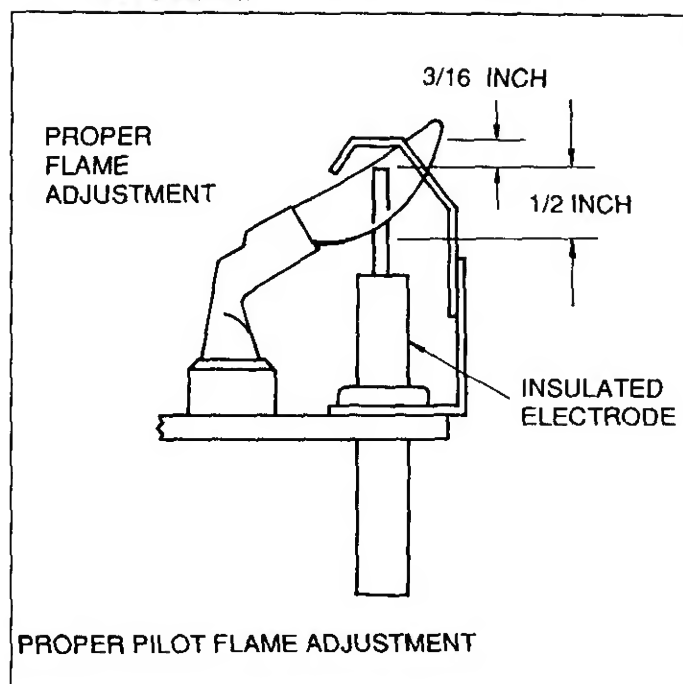

FIGURE 32
2. If necessary, adjust spark gap to 3/16" as shown in Figure 32. Pilot flame should cover 1/2" of tip of flame sensor.
5. Pilot flame should cover 1/2" of tip of flame sensor as shown in Figure 32.